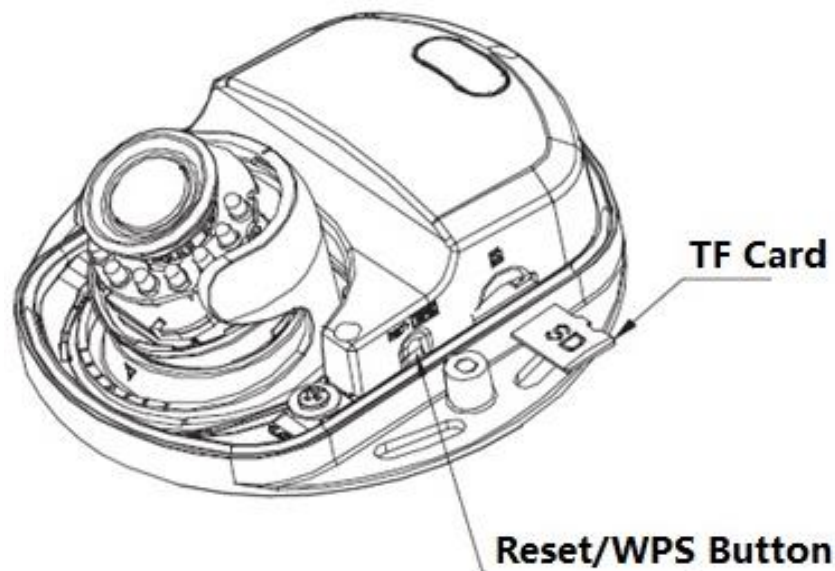

Figure 2-4
- Long press the “Reset Button” for 5~10 seconds shown in Figure 2-4, then it can realize the device reset function.
Adjust the Micro SD Card to a proper direction shown in Figure 2-4 and finish installation.